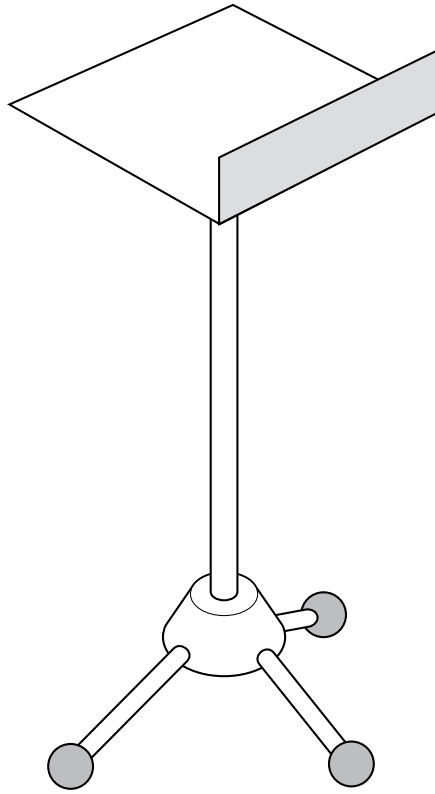

Fig. 12
- 4 Fig. 12 shows a design for a music stand to be used for school concerts.